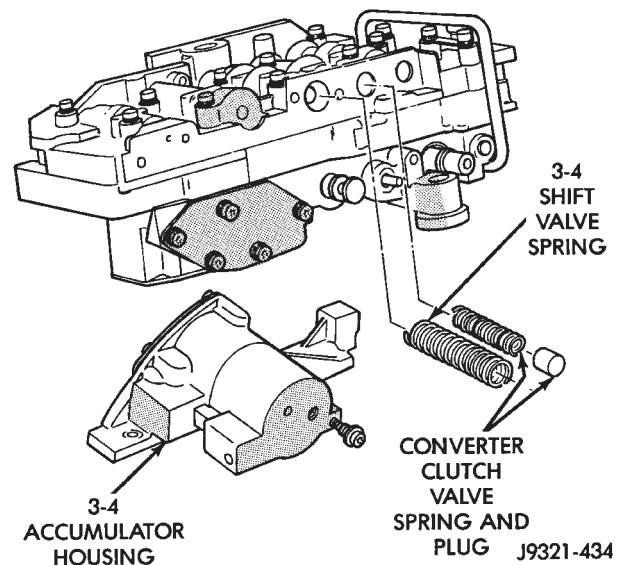

Fig. 81 Accumulator Housing, Valve Springs And Plug
(22) Remove left-side screw and remove 3-4 accumulator housing from valve body (Fig. 81).